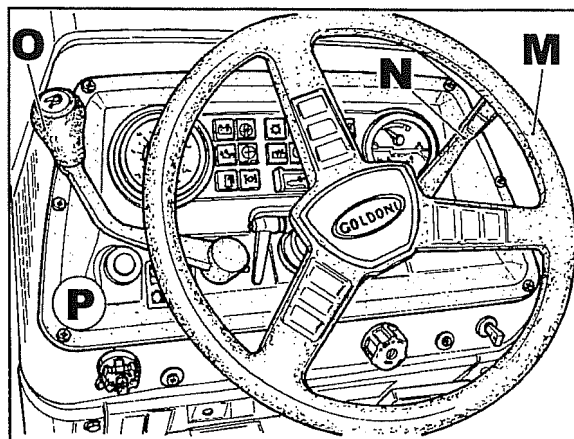

Fig. 8
- 12 Remove the steering wheel **M** fig. 8, the hand throttle lever **N**, the creep and reverse lever - **O** and then remove the instrument panel **P**.